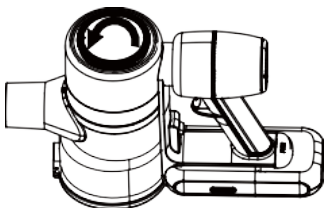
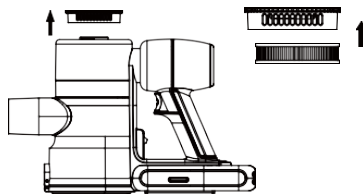

Fig.4
Fig.5
- 1.Rotate the HEPA filter cover counterclockwise (Fig.4) and take out the HEPA filter (Fig.5)